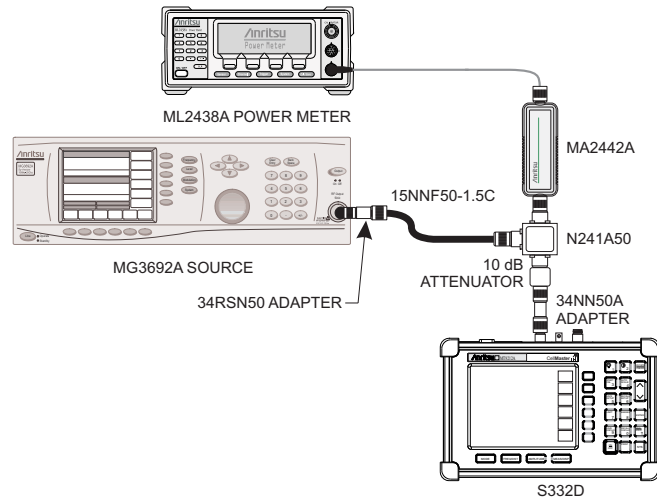

Figure 5. Power Meter Verification Setup
- Using the power splitter, coaxial cable and adapters, connect the Site Master to the signal source and the power sensor as shown in Figure 5.